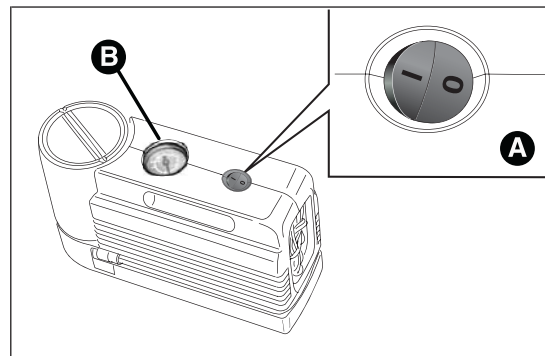
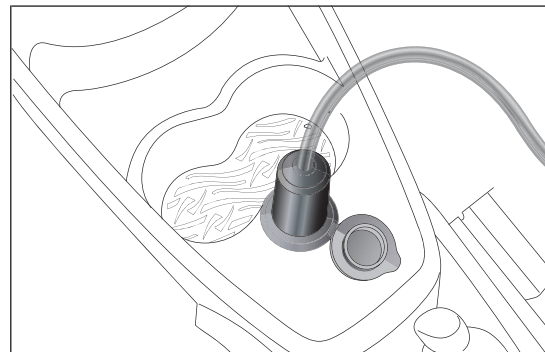

fig. 125
fig. 126
- make sure that the compressor switch A fig. 125 is in position 0 (off), start the engine, plug into the power socket in the central tunnel fig. 126 and operate the compressor, turning switch A to position I (on). Inflate the tyre to the pressure specified in the "Inflation pressure" paragraph
in the "Technical specifications" section. Check tyre pressure on gauge B fig. 125 with compressor off to obtain a more precise reading;